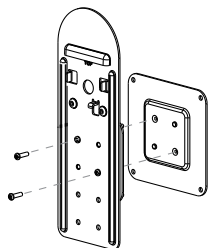

Figure 7.3 Drop-Down VESA Plate
- Three mounting options provide a vertical adjustment range of 5.4" below the center line of the Ball Joint (Figure 7.3).